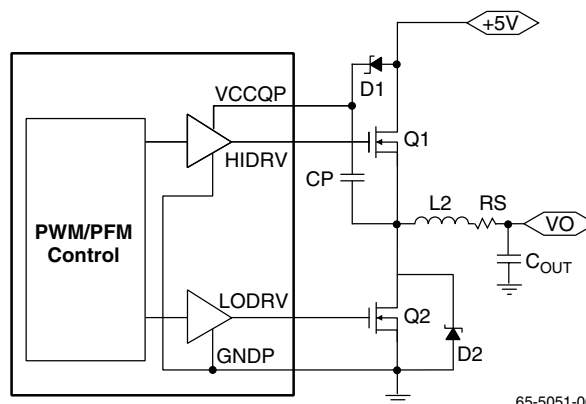

Figure 3. Charge Pump Configuration
Figure 3 shows the use of a charge pump to provide gate bias to the high side MOSFET when +12V is unavailable. Capacitor CP is the charge pump used to boost the voltage of the RC5051 output driver. When the MOSFET Q1 switches off, the source of the MOSFET is at approximately 0V because of the MOSFET Q2. (The Schottky D2 conducts for only a very short time, and is not relevant to this discussion.) CP is charged through the Schottky diode D1 to approximately 4.5V. When the MOSFET Q1 turns on, the voltage at the source of the MOSFET is equal to 5V. The capacitor voltage follows, and hence provides a voltage at VCCQP equal to almost 10V. The Schottky diode D1 is required to provide the charge path when the MOSFET is off, and reverses biases when VCCQP goes to 10V. The charge pump capacitor (CP) needs to be a high Q, high frequency capacitor. A 1µF ceramic capacitor is recommended here.